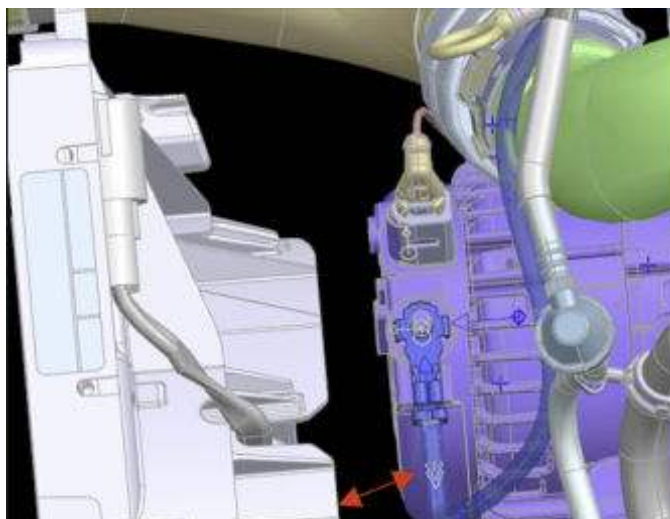

Fig. 3
5. Reconnect battery positive cable to generator in new orientation (facing vehicle left) Fig. 3.